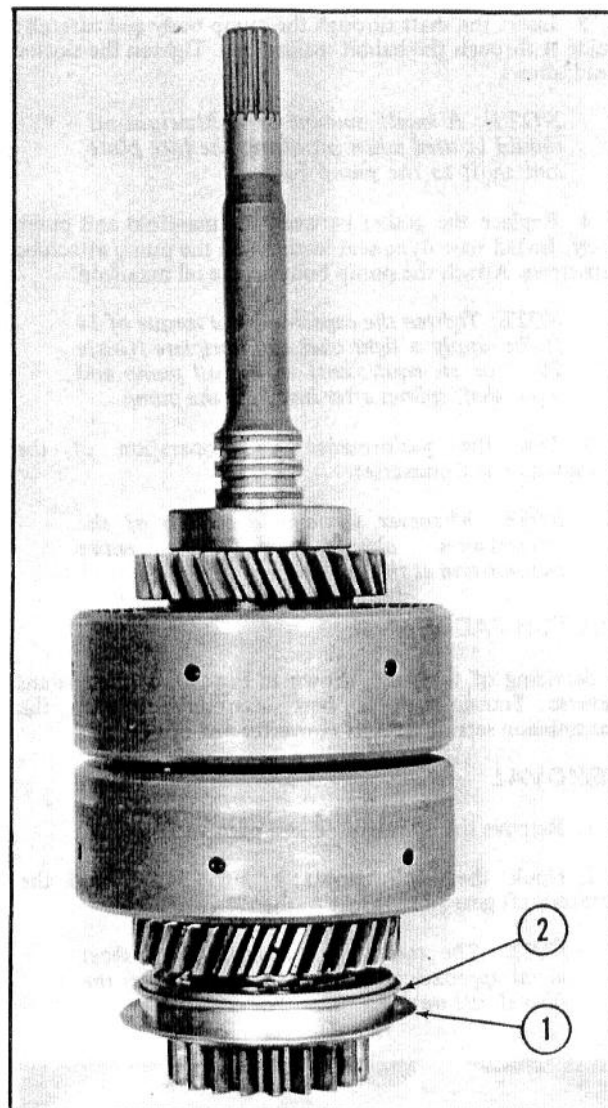
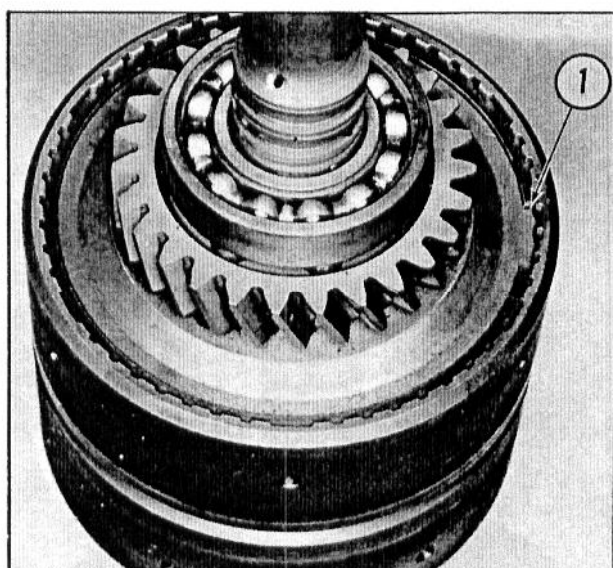

Fig. 34 — Clutch Pack Assembly
Fig. 35 — Removing the Input Shaft
1. Stand the clutch pack assembly (shown in Fig. 34) on the output shaft gear and remove the snap ring, while holding the input shaft assembly into the forward clutch cylinder assembly. See Fig. 35.